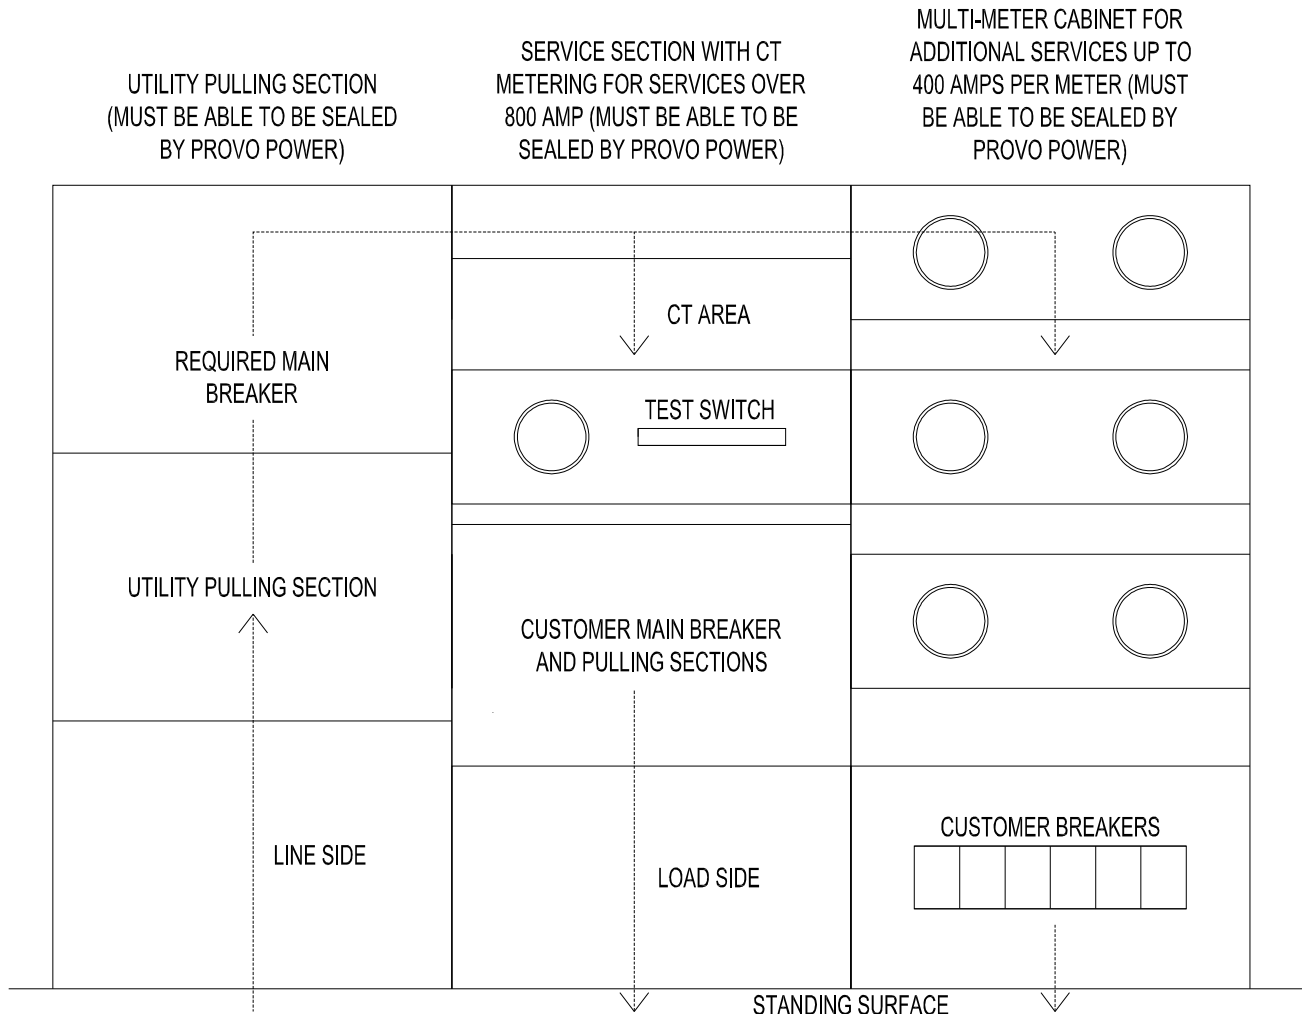

Figure 18.1 Switchboard Service larger than 800 amp (Multi-meter)
- 12.1.1 Current transformer (C.T.) metering is required when a three-phase service exceeds 400 amperes, or when a single-phase service exceeds 320 continuous amperes. For services over 800 amperes see figures 18.1 and 19.1 on switchboard metering.